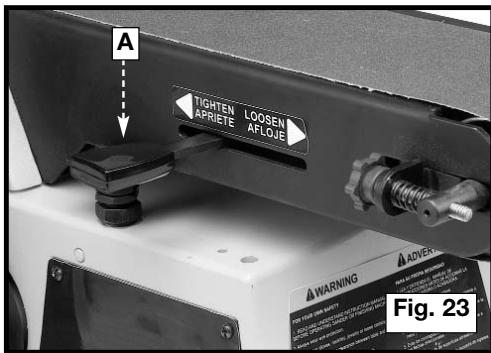

Fig. 23
1. Before adjusting, move the belt tension lever (A) Fig. 23 all the way to the left to the "TIGHTEN" position.